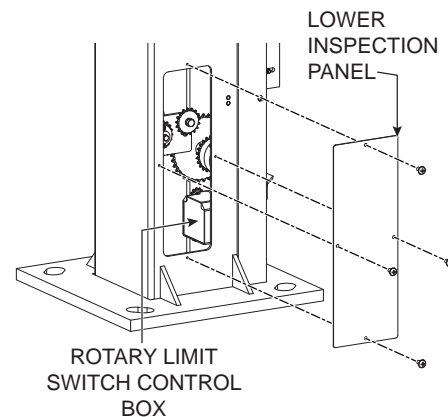

Figure 1. Control Box & Inspection Panel Access
1. Use a Phillips-head screwdriver to remove HydraLift tower lower inspection panel and four securing screws. Set plate and four screws aside. See Figure 1.
2. Use a #2 Philips -head screwdriver to remove four screws holding cover to Geared Rotary Limit Switch control box. Set cover and screws aside. See Figure 1.